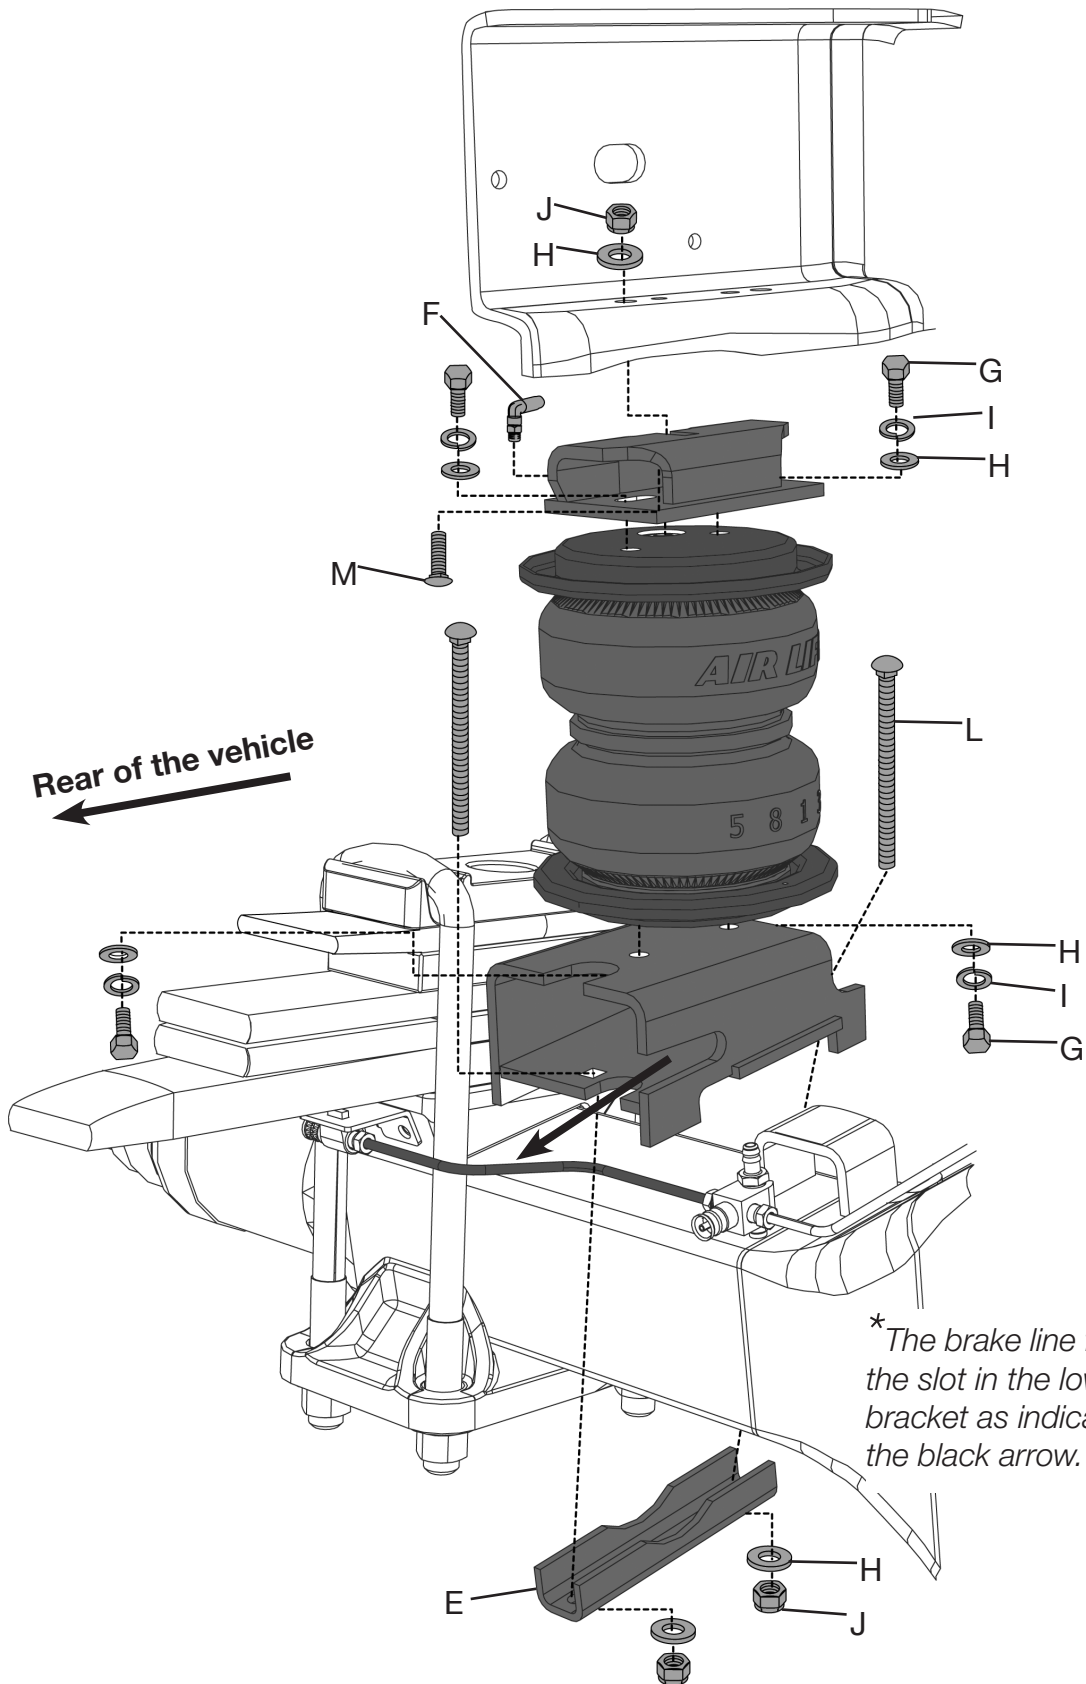

fig. 1
*The lower brackets have slots and grooves that correspond with the brake line. Be sure these are facing the rear of the vehicle (Fig. 1).*
2. Set the clamp bar (E) onto the carriage bolt (L) and cap with a 3/8" flat washer (H) and nylon lock nut (J) (fig. 1). Leave loose at this time.
1. Insert the 3/8" carriage bolt (M) into the slot on the middle of the upper bracket (Fig. 1).
2. While positioning the corresponding assembly (driver side or passenger side) under the frame, insert the carriage bolt up through the existing jounce bumper hole in the frame (Fig. 1).
3. Once the upper bracket is flush to the bottom of the frame, cap the 3/8" carriage bolt (M) with a flat washer (H), and a 3/8" nylon lock nut (J). Tighten securely at this time.
1. With the clamp bar still loose on the lower bracket, line up the holes in the roll plate/bellows with the holes in the lower bracket and insert two 3/8" bolts (G), lock washers (I), and flat washers (H) (Fig. 1). Tighten securely.
2. Position the lower bracket (in or out) to line up the bellows so that it is perpendicular to both the upper and lower brackets. Torque the clamp bar nuts to 16 ft/lbs (Fig. 1). Repeat for the opposite side.